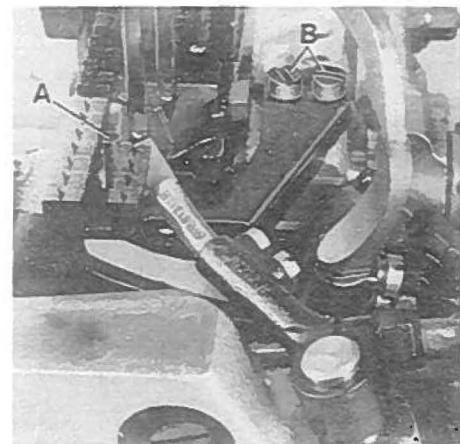

Fig.20
Assemble the throat plate support (A, Fig. 20) with screws (B) so that it does not interfere with the feed dog or any other machine parts.